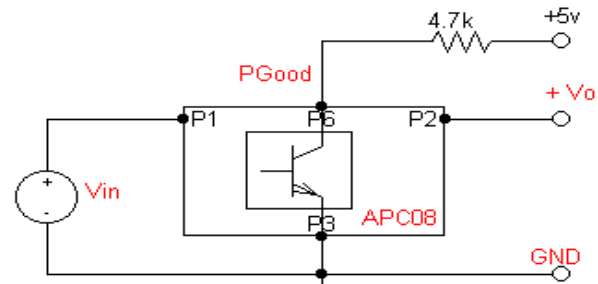

Figure 6. PG Good setup.
- Refer to Figure 6 for the PGood configuration.
PG pin provides an output signal indicating the V_{out} is operational (TTL logic signal). It can sink current up to a maximum of 5mA and can have a maximum external pull-up voltage of 6V. Please see recommended setup shown on Figure 6.